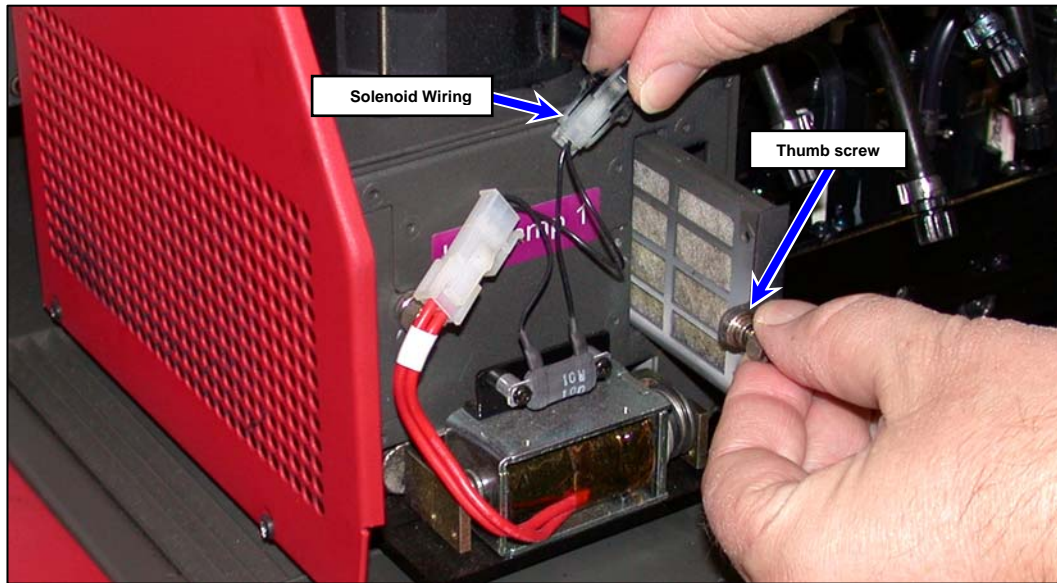

Figure 55 **Removal of Air Filter and Frame**
- 2 Hold the solenoid wiring up to avoid damaging the connector or wires. See **Figure 55**.
- 3 Loosen filter frame thumb screw as shown. See **Figure 55**